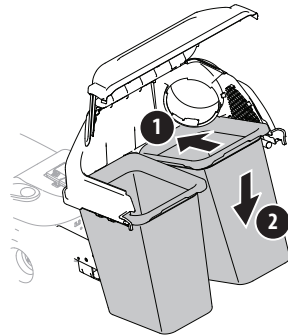

Figure 14
9. Install both grass bag assemblies onto the hanger rail by inserting the front edge in first, as shown in Figure 14, and setting the back edge down until it fits into the assembly.